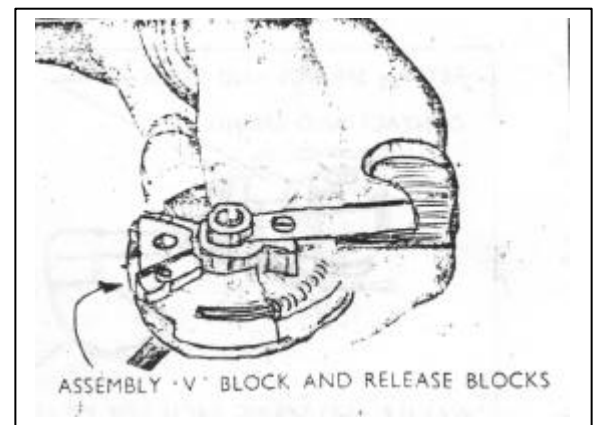

Fig 6.
3. Position the two release blocks in their grooves with the tapered ends pointing away from the "V" block (see Fig.6).